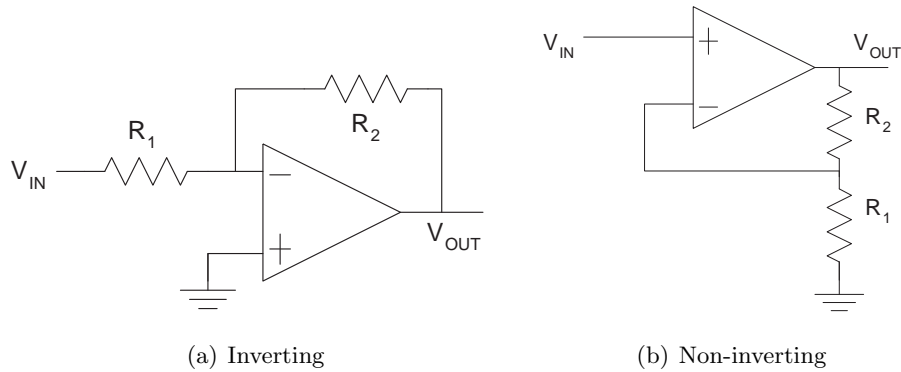

Figure 5: Operational amplifiers.
- (3.1) There are two possible circuits, one inverting and the other non-inverting. These possibilities are shown in Fig. 5. It is easy to show that the closed-loop gain  $A_f$  is
respectively for Fig. 5(a) and Fig. 5(b).